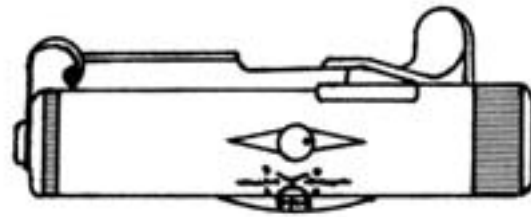

Figure 3-50. AN/PAQ-4B, IAL.
d. **Infrared Aim Light, AN/PAQ-4B.** The AN/PAQ-4B IAL is a small, lightweight device that bore-sights to the M240G and emits a beam of infrared light that is used in conjunction with a night vision device to acquire and engage targets at night. The IAL is visible only when viewed with image intensified NVE such as the AN/PVS-4 ISWS, AN/PVS-5 NVG, and AN/PVS-7B NVG. The IAL allows the gunner to aim and maintain fire on the target without the sighting process being disturbed by the recoil of the weapon system. The gunner puts the aim point on the target, fires, and adjusts the point of impact. He can readily see the impact of the rounds because his view is not being disrupted by the flash and recoil of the weapon. See figure 3-50.